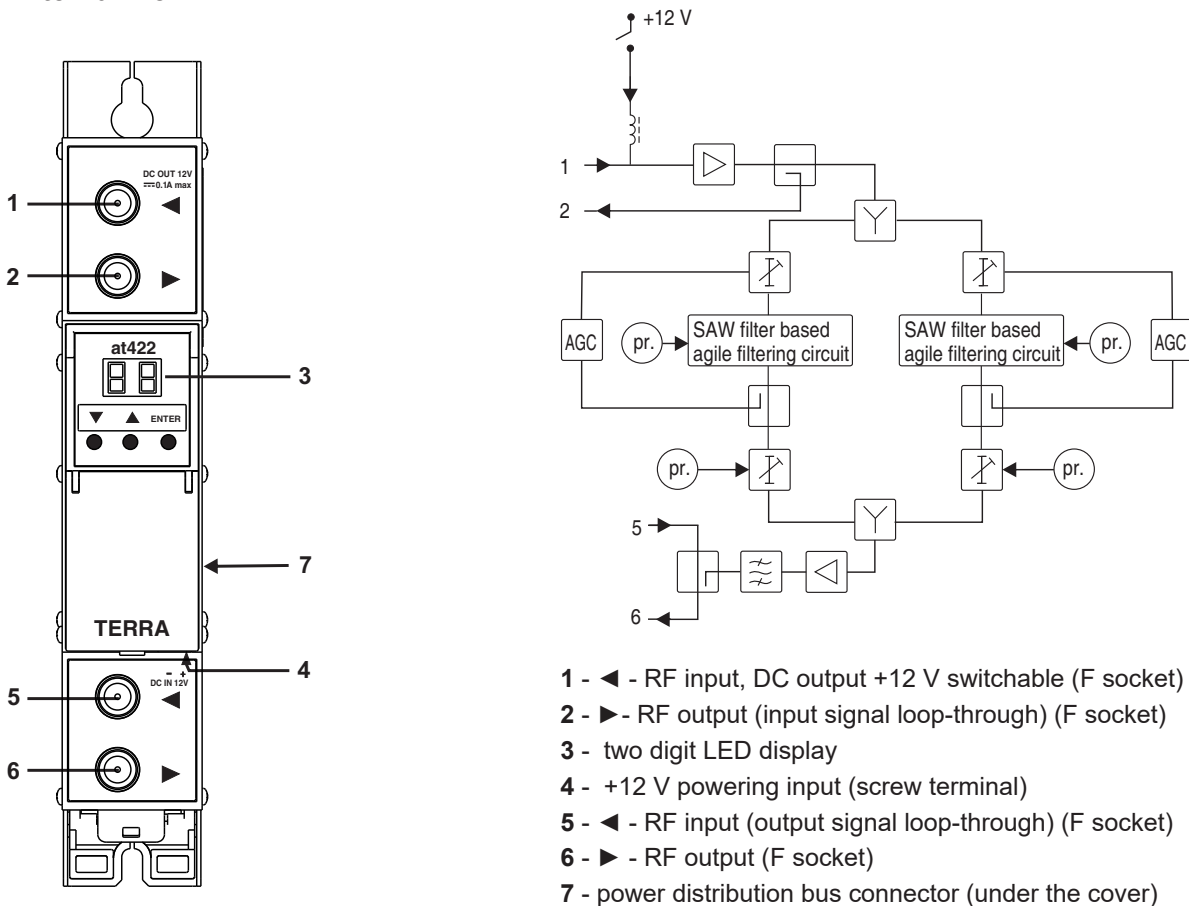

Figure 1. External view and structure diagram
There are incorporated two fully independent TV amplifiers in one unit. Each amplifier consists of AGC (Automatic Gain Control) circuit, SAW (Surface Acoustic Wave) based ultra high selective filter, IF (Intermediate Frequency) offset control circuit and adjustable output attenuator. +12 V DC feeding circuit for both preamplifiers (Figure 1) is controllable.
If RF IN connector (5) is not used, connect the 75Ω isolated load supplied (Figure 1).